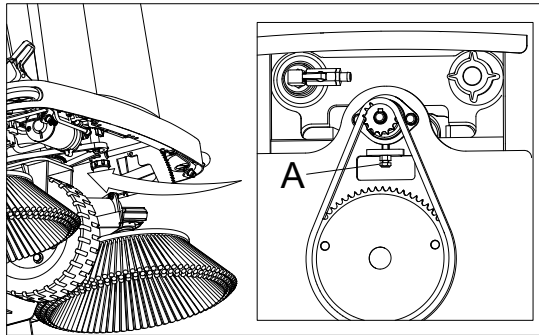

Figure 40
4. When the front wheel is loose, adjust the wheel chain adjusting screw (A, Figure 40) on the front of the machine to make sure the wheel chain is of proper tightness.